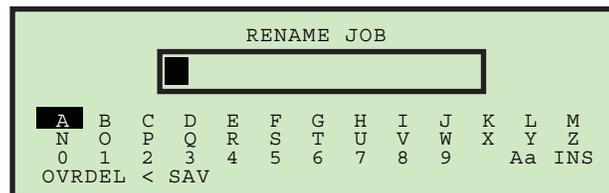

Figure 3-44: Rename Job screen
2. Use the Arrow buttons to select an existing job, and press **Enter**. The **RENAME JOB** screen appears (Figure 3-44).